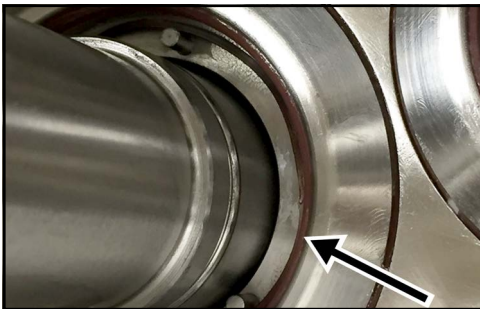

Figure 96 - Install carrier-to-seal O-ring
2. Lubricate the carrier-to-seal O-ring and install it in the groove on the inside of the seal carrier as shown in Figure 96.